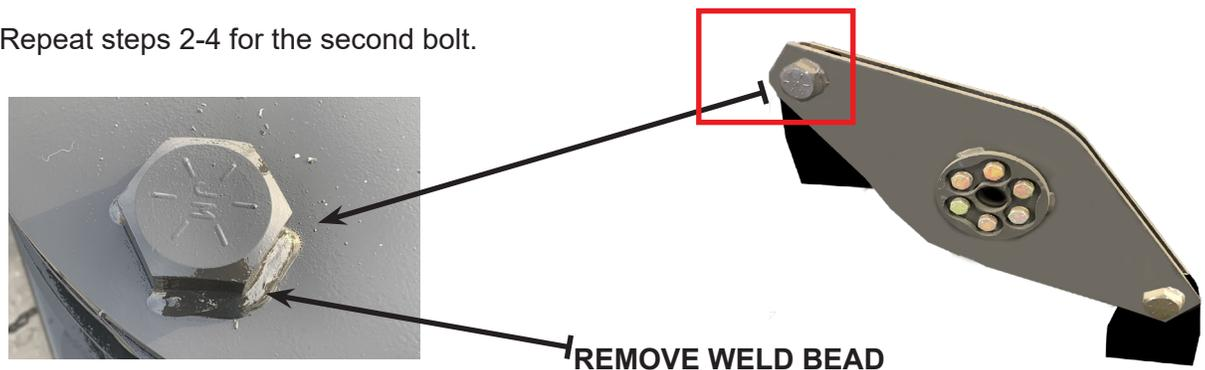

Figure A1 Blade Holder Bolt Weld Bead Removal
2. Use a cutting torch or grinder with a cut off wheel to remove the weld bead around the bolt head. DO NOT cut into the blade holder. (See Figure A1 below)
5. Weld the outside of the bolt head as shown in Figure A1.